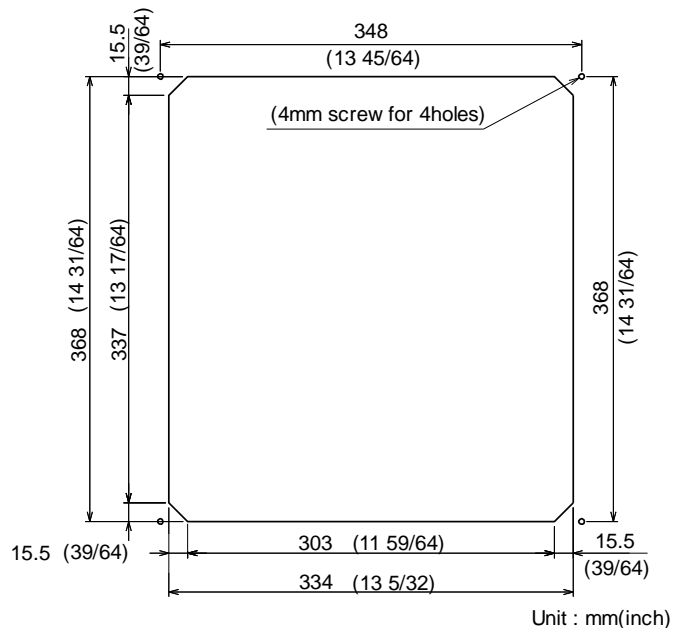

Figure 3.14 Opening and holes for mounting a Display unit
- (1) Cut an opening and drill four nut-holes with the size shown in Figure 3.14, on the side for attachment of a Display unit on a panel.
- (2) Remove four knobs that hold the Display unit to the mounting bracket.
- (3) Remove four corner guard caps.
- (4) Remove the Display unit from the mounting bracket and set it on the level place.